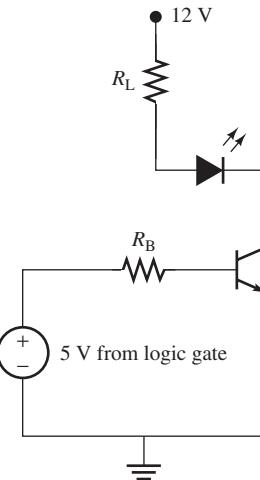

FIGURE P8.52 Logic gate-controlled photodiode.
- 8.52 (A)** A transistor switch (operating in the saturation region) is controlled by the output of a digital logic gate as shown in Figure P8.52. The output of the logic gate is 5 V. A resistor (R_B) is needed to limit the current out from the digital logic gate to 5 mA to protect it, and a resistor (R_L) is also needed to limit the current through the photodiode to 10 mA. Calculate the value of the two protecting resistors.